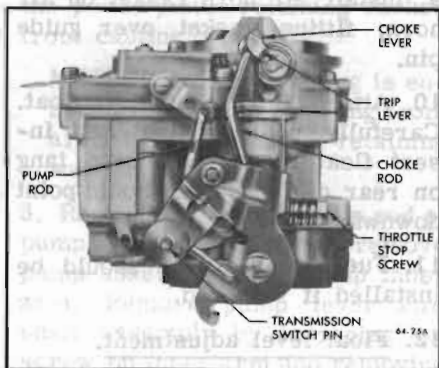

Figure 64-18—Choke Linkage
15. Install choke rod into choke lever and fast idle cam. Install fast idle cam screw and tighten securely. See Figure 64-18 for proper installation.